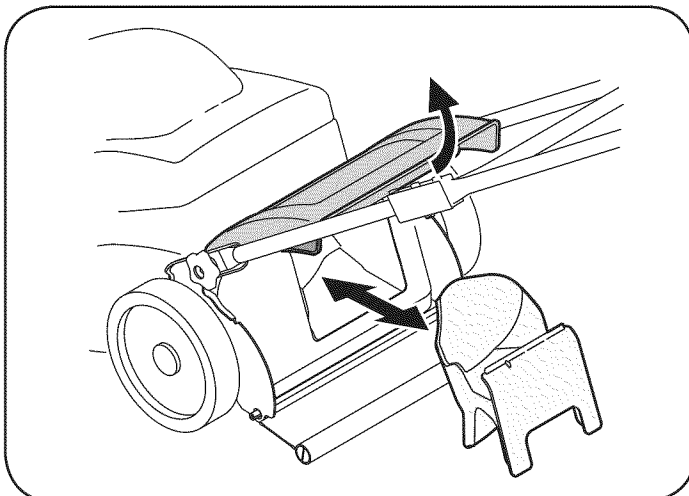

Figure 3
2. Remove mulching baffle. See Figure 3.